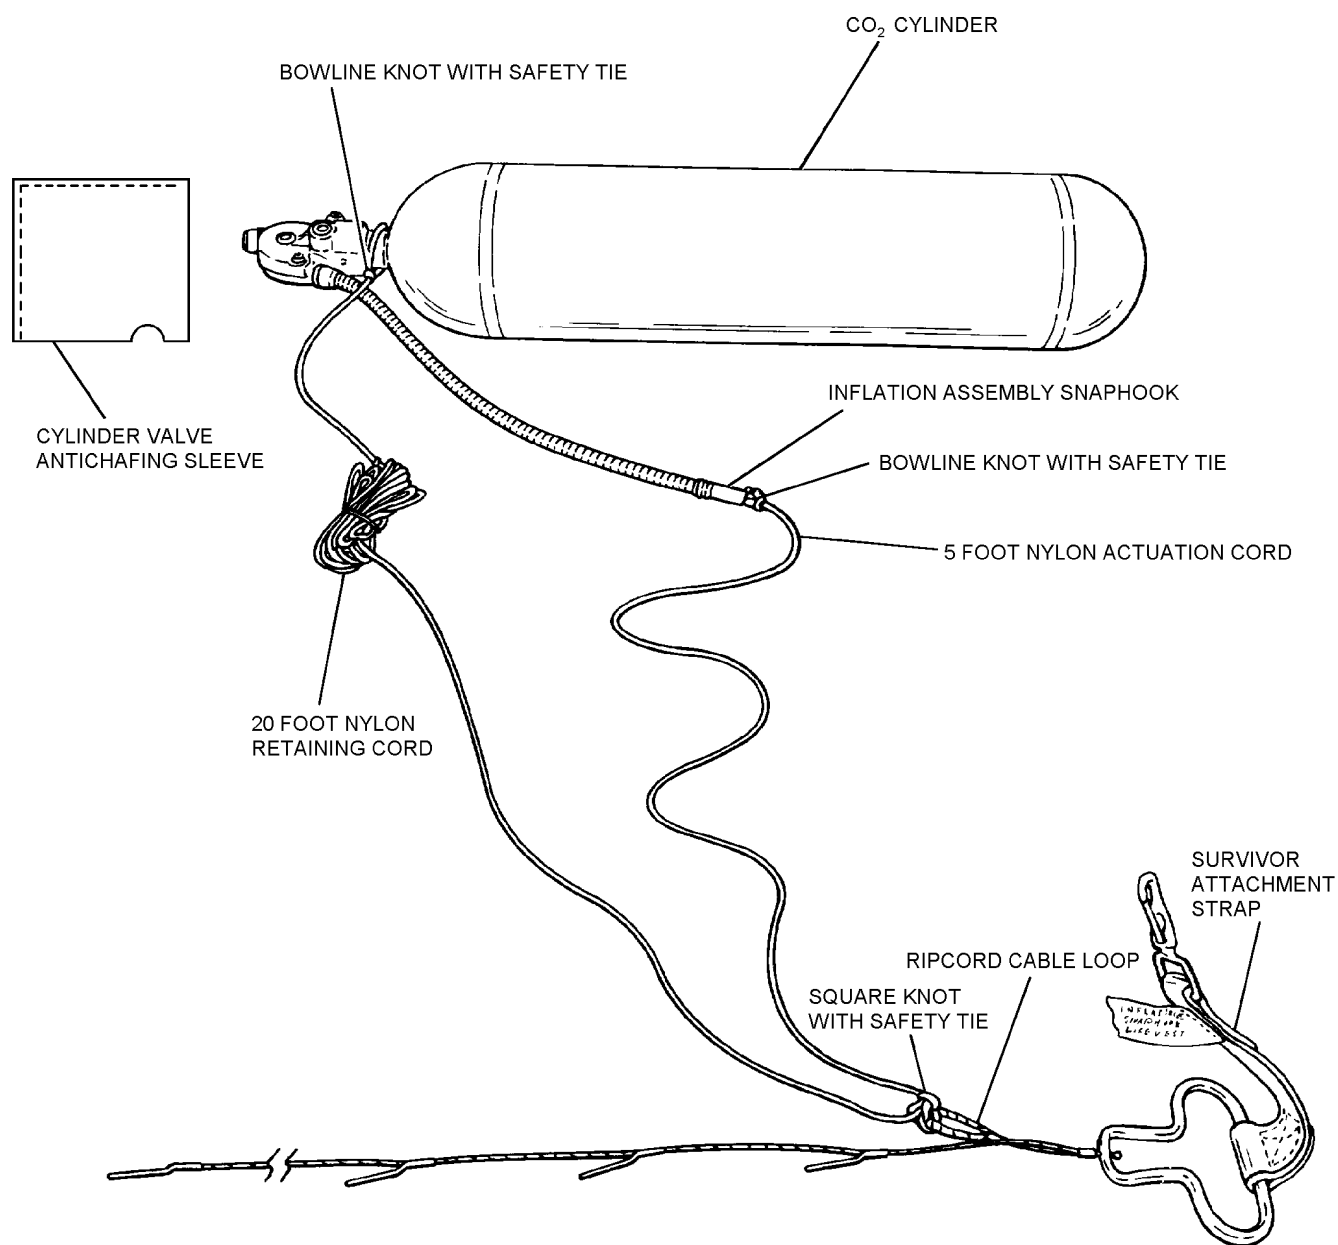

Figure 11-23. CO₂ Cylinder Down-Pull Routing
6. Attach nylon cord to ripcord cable loop with a square knot, leaving a 5-foot length of nylon cord on one side for the actuation line and a 20-foot length of nylon cord on the opposite side for a retaining line. Safety-tie square knot with one turn of size E thread. See figure 11-23.
7. Using a bowline knot, secure 5-foot nylon cord actuation line to inflation assembly snaphook. Safety-tie bowline knot with one turn of size E thread. See figure 11-23.
9. Using a bowline knot, secure 20-foot nylon cord retaining line to neck of CO₂ cylinder. Safety-tie bowline knot with one turn of size E thread. See figure 11-23.